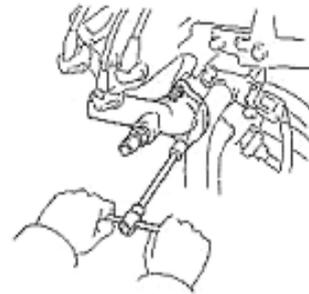

Figure 126
- (1) Remove thermostat (See Figure 126).
- (2) Install thermostat.